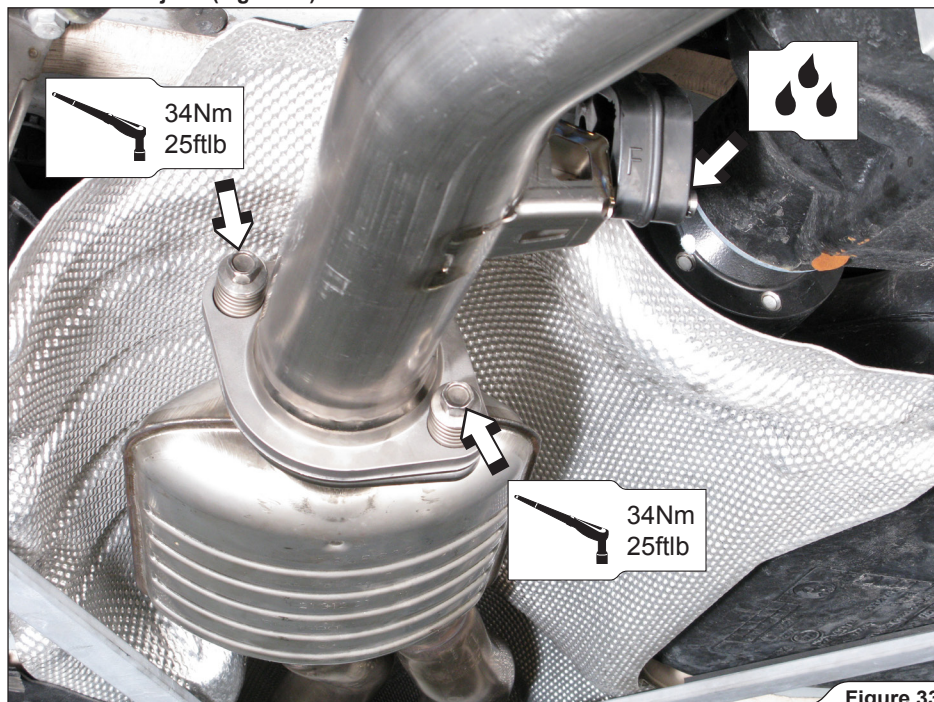

Figure 33
**!** **WARNING:** in case of Slip-On exhaust system in combination with original link pipes, use Slip-On adapter and gasket from Akrapovič installation kit and original conical gasket in this joint (Figure 33)!